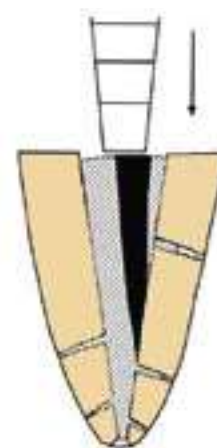

Fig. 6. Compactage vertical final
- Compactage vertical final (Fig. 6)